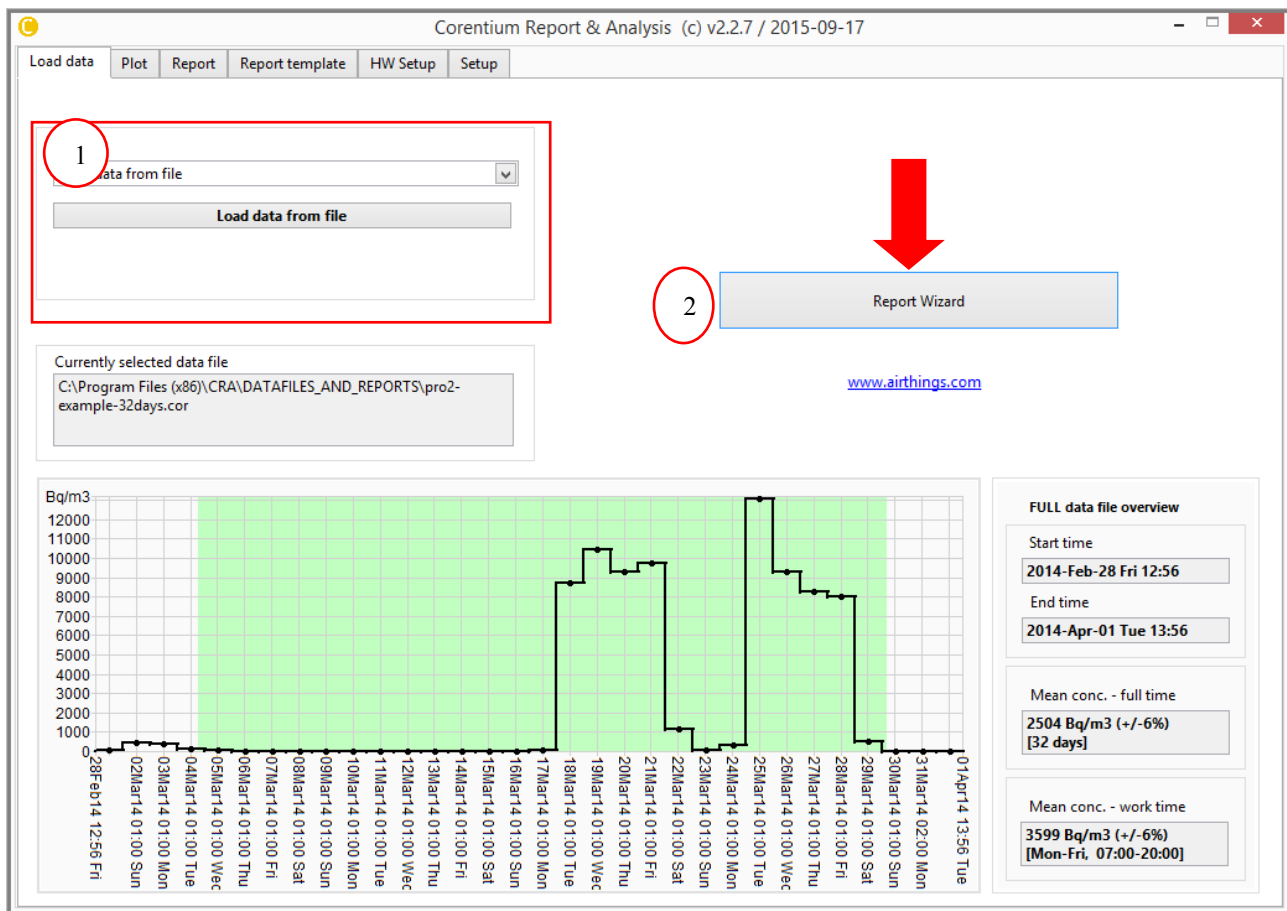

Figure 4-44: Report Wizard
2. Push Report Wizard as indicated by red arrow in Figure 4-44. You would be navigated automatically to Report duration window